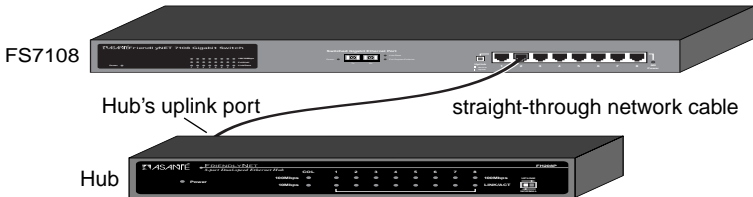

Figure 2-13 Connecting a hub to the Switch
- ❑ Connect the hub's uplink port to any of the Switch's ports. See Figure 2-13.